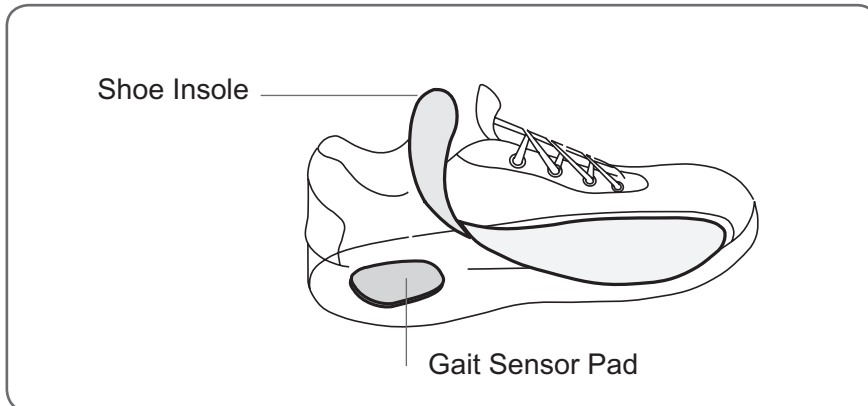

Figure 8: Placement of the Gait Sensor pad.
2. Attach a Gait Sensor pad under the insole, at the heel of the shoe. See Figure 8.